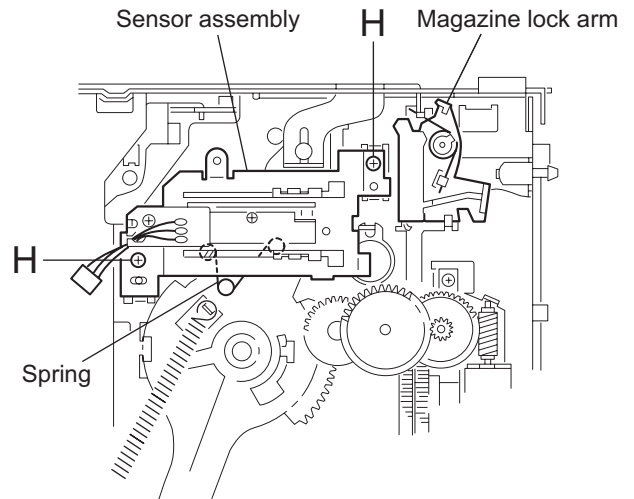

Fig.12
2.4.1 Remove the sensor assembly unit (See fig.12)
2.4.2 Remove the magazine lock arm (See fig.12,13)